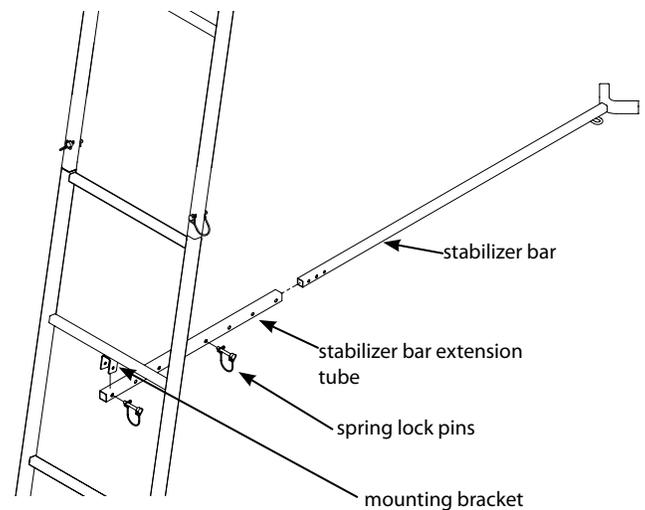

Figure 9
14. a. Attach the stabilizer bar extension tube (1ML23) to the second ladder section mounting bracket using (1) provided spring lock pin. **SEE FIGURE 9.**
- b. Slide the stabilizer bar (L17) into the extension tube and attach the two pieces together using (1) provided spring lock pin. Spring lock pin must go through both the extension tube and stabilizer bar at appropriate hole to achieve desired distance from tree. Adjustment in length may be needed when ladder is uprighted later in instructions. **SEE FIGURE 9.**